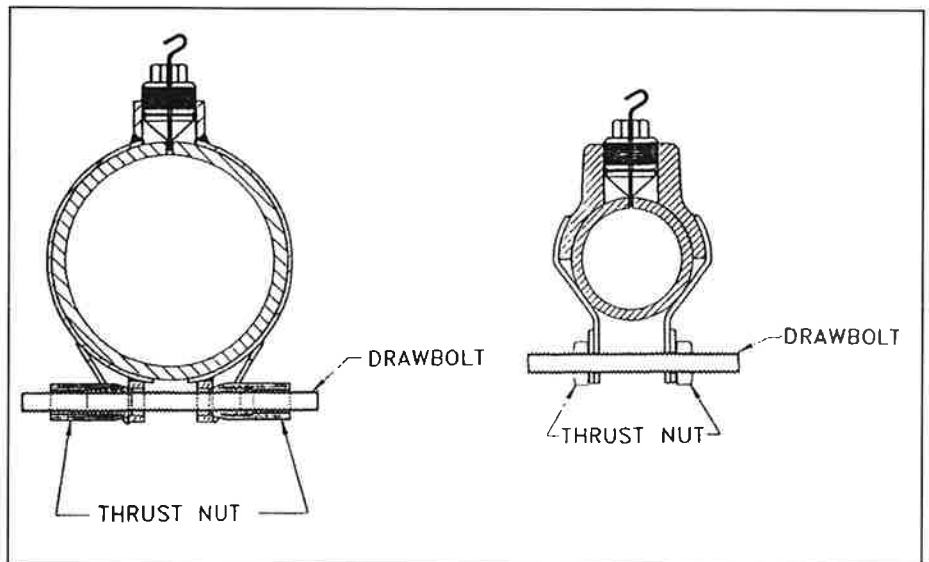

FIGURE 3.
3. Use the Pilot Pin to locate the pin hole leak. (See Figure 3)